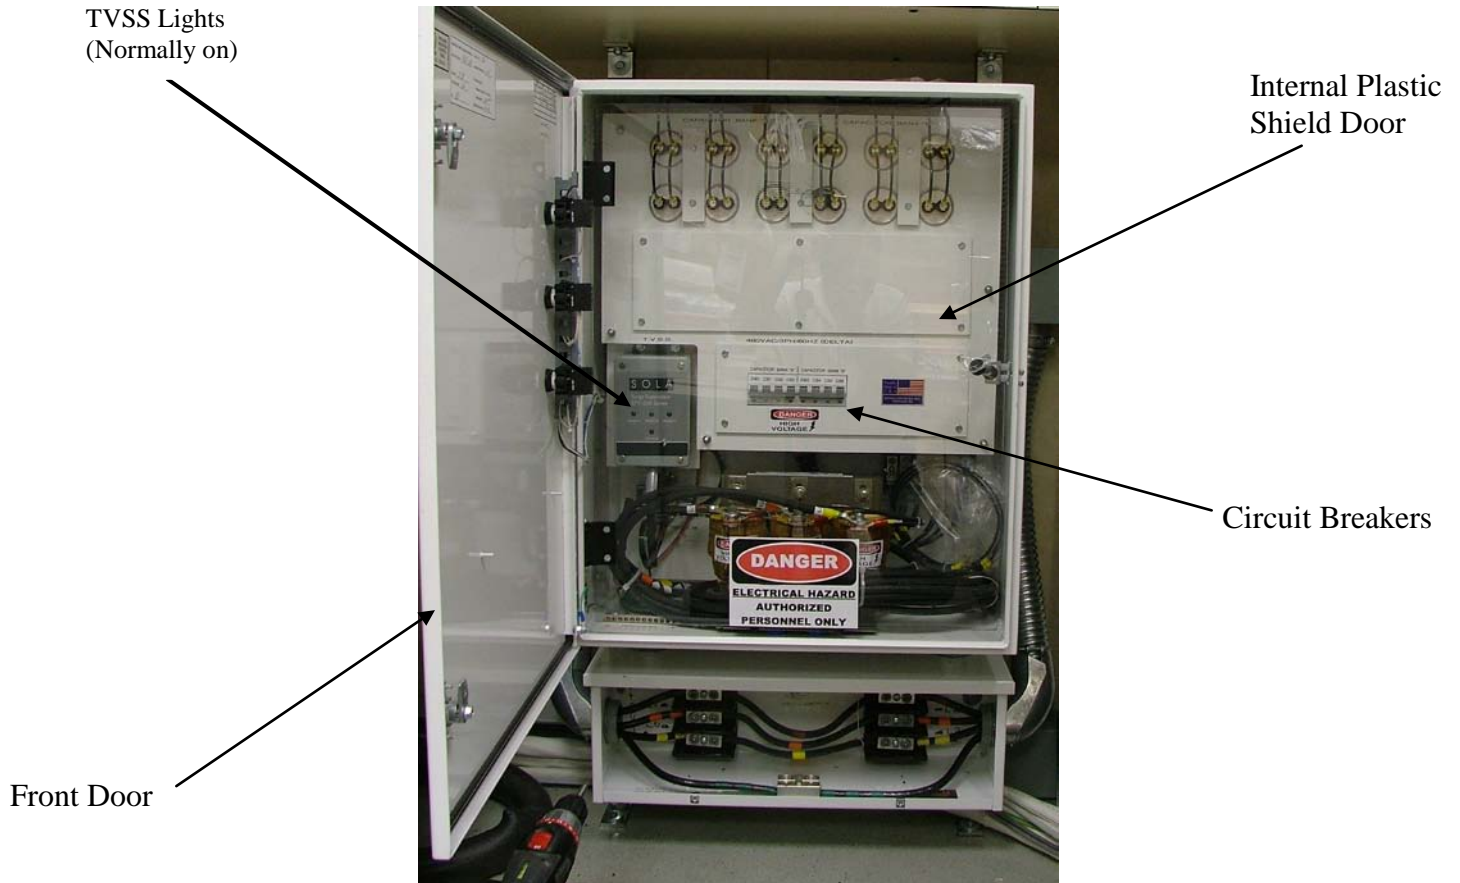

Figure 6
- c. Unlock and open the Rad-X Filter Front Door (**Figure 6**).
- d. Open the Internal Plastic Shield Door (**Figure 6**).
- f. Shut the two Rad-X Filter CB's (**Figure 6**).
4. Unlock and open the Front Door (**Figure 6**).
5. Open the Internal Plastic Shield Door (**Figure 6**).
4. Remove the Circuit Breaker cover (Figure 6, Page 10).